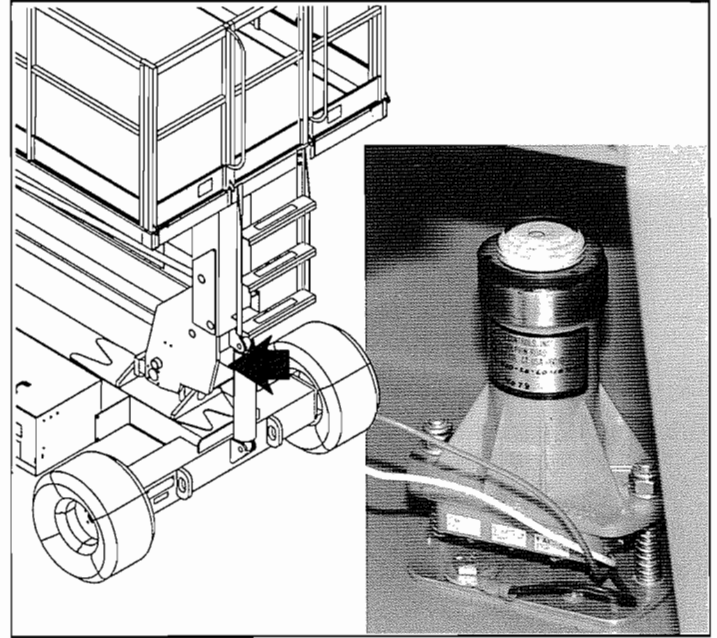

Figure 4-9
7. Remove the cover plate to the level sensor located behind the Fore/Aft Tilt Cylinder. Place an orbit level adaptor tool on the level sensor cap. Using a mirror observe the orbit level and check to ensure that the bubble is in the circle. Adjust the level sensor with the three adjusting nuts and replace the cover plate. (Ref. Figure 4-9, Level Switch)